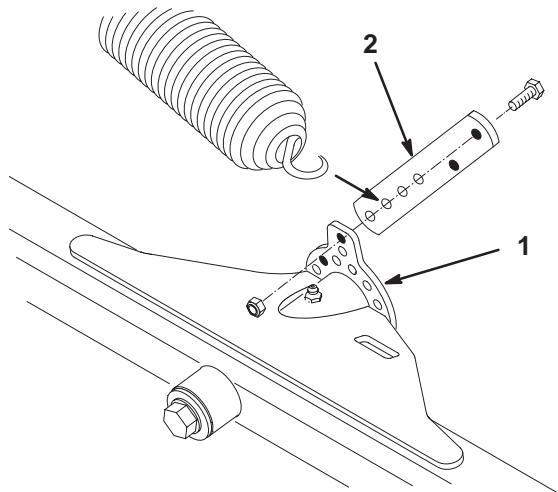

Figure 15
- Mount a spring anchor to the rear inboard side of each front cutting unit lift tab with 2 capscrews (1/4 x 3/4 in.) and locknuts, as shown in Figure 15.
- On the front cutting units, hook the spring into the second hole from the bottom (#3 position) in the spring anchor (Fig. 15).